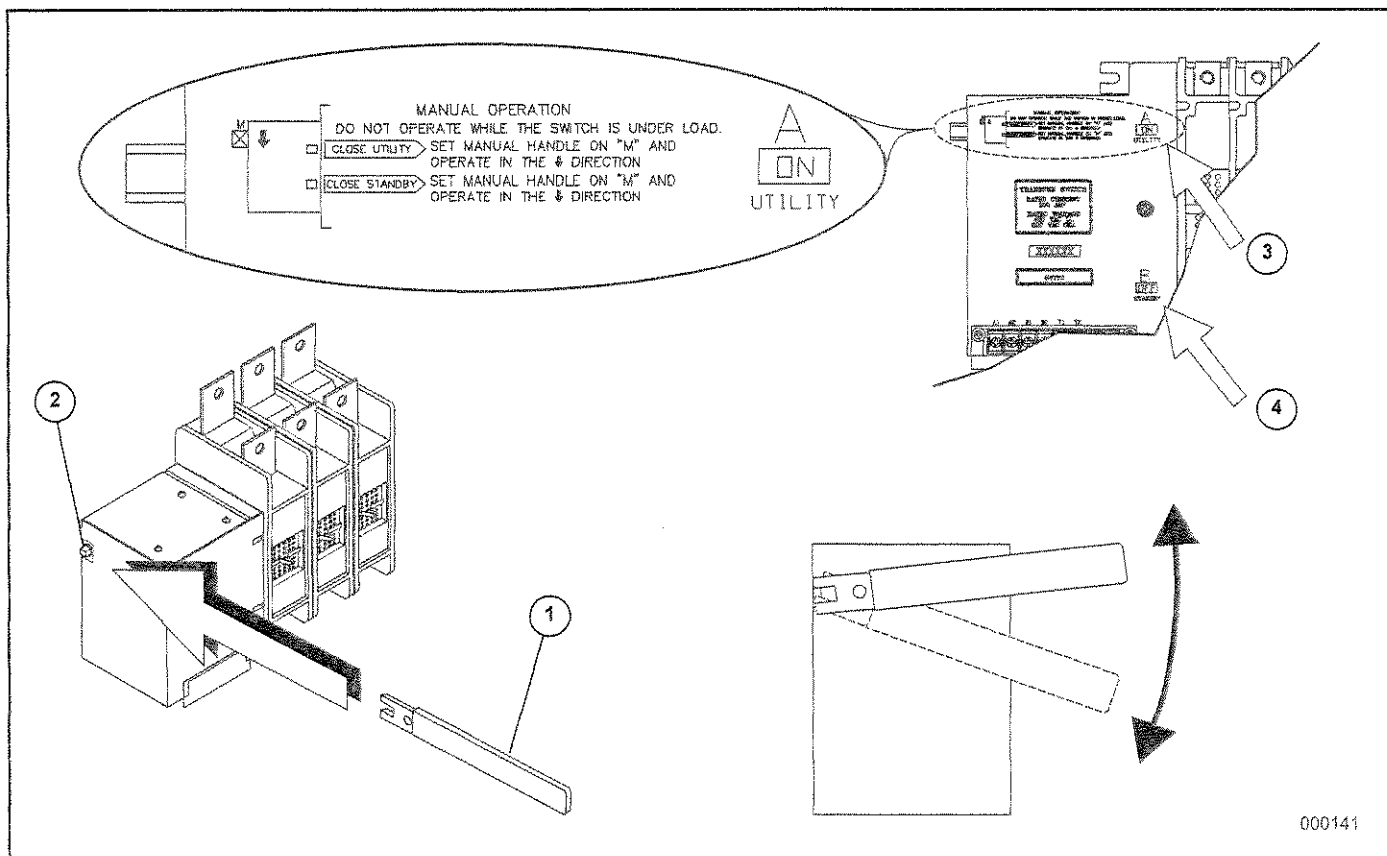

Figure 4-1. Actuating Transfer Switch
A manual handle is shipped with the transfer switch. See 1 in Figure 4-1. Manual operation must be checked BEFORE the transfer switch is operated electrically. To check manual operation, proceed as follows:
3. Note position of transfer mechanism main contacts by observing display windows in "A" and "B" (3 and 4 in Figure 4-1) as follows:
Before proceeding, verify the position of the switch by observing Window "A" in Figure 4-1. If Window "A" reads "ON", the contacts are closed in the normal position, no further action is required. If it reads "OFF", proceed as follows:
- Attach handle attached to actuating shaft (see 2 in Figure 4-1). Move handle in the direction of the arrow on the switch cover until it stops — DO NOT FORCE. Release handle slowly to allow the spring in the switch box to relax. "ON" now appears in Window "A" and "OFF" appears in Window "B".
Before proceeding, verify the position of the switch by observing Window "B" in Figure 4-1. If Window "B" reads "ON", the contacts are closed in the EMERGENCY (STANDBY) position. No further action is required. If it reads "OFF", proceed as follows:
- Attach handle to actuating shaft (see 2 in Figure 4-1). Move the handle in the direction of the arrow on the switch cover until it stops - DO NOT FORCE. Release handle slowly to allow the spring in the switch box to relax. "OFF" now appears in Window "A" and "ON" appears in Window "B".